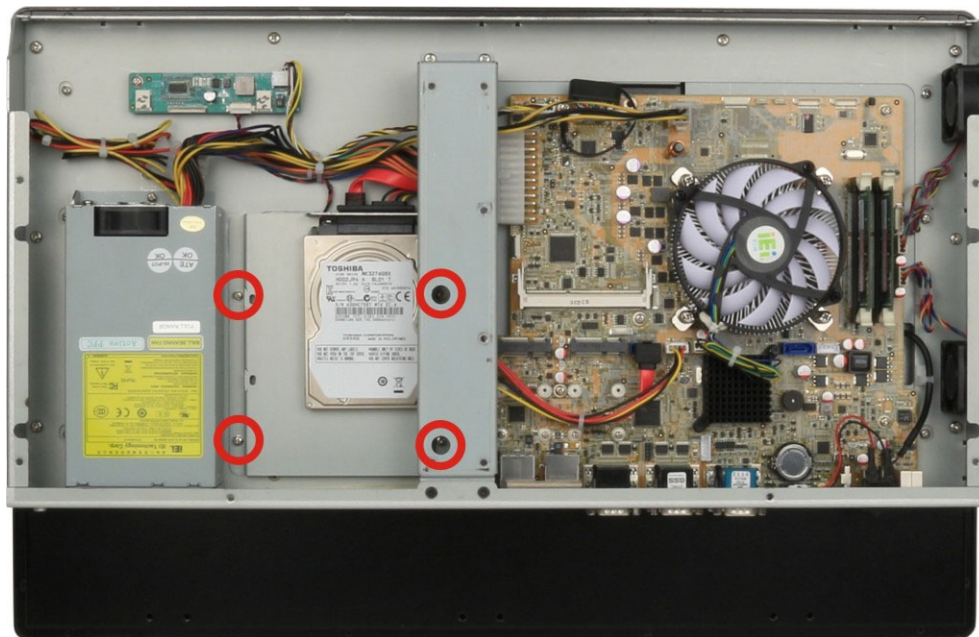

Figure 3-8: Replacing the PPC-F22A/F24A-H81 HDD Bracket
Step 5: Reinstall the HDD bracket into the PPC-FxxA-H81 and fasten the four hard drive bracket screws (**Figure 3-8**).